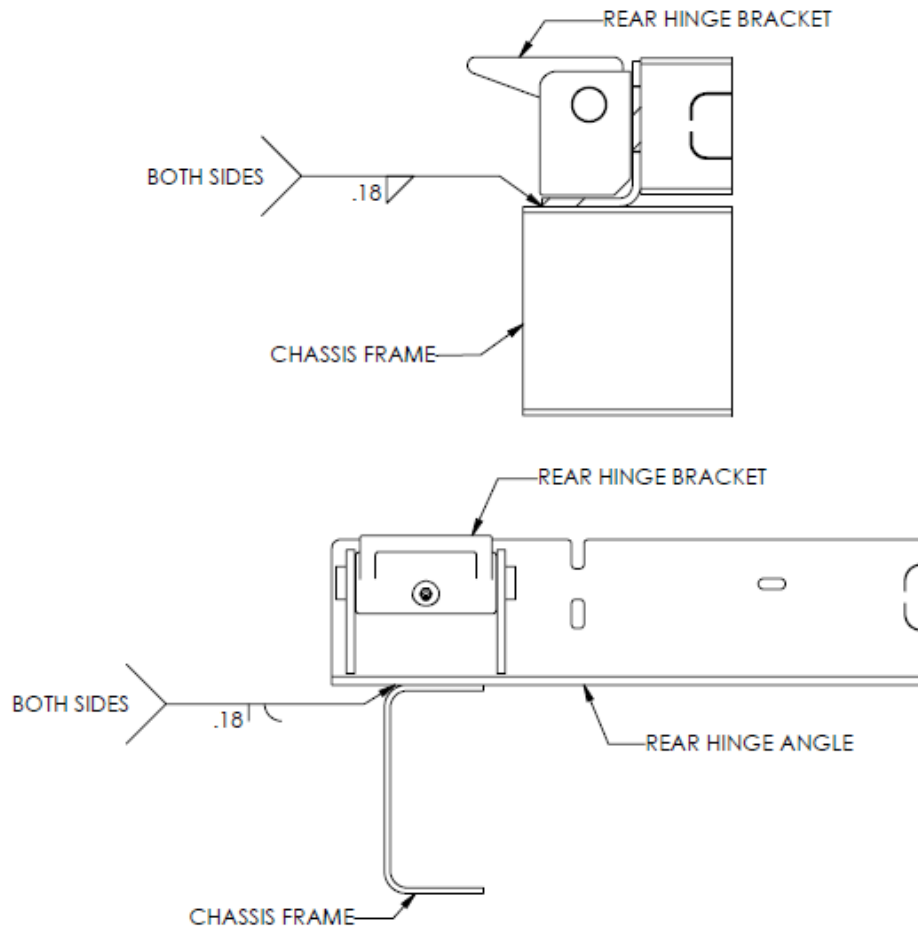

FIGURE 4
3. Fasten the very rear end of the sub-frame to the truck by welding the rear hinge angle to the chassis frame as shown in Figure 4.